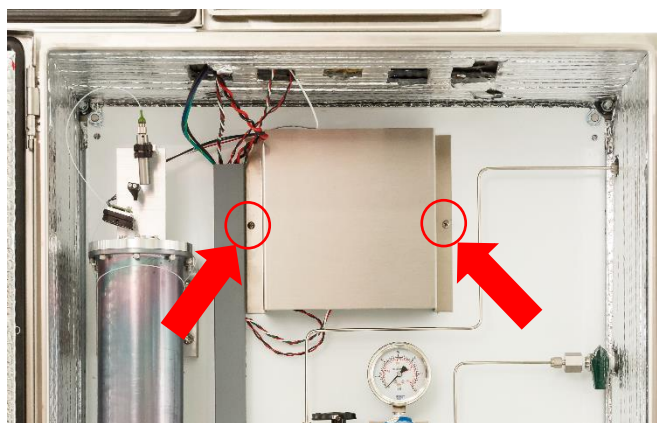

Figure 62: Location of Screws for the Main Board Cover Plate
4. Locate the screws holding the main laser board cover plate in place as indicated in Figure 62.